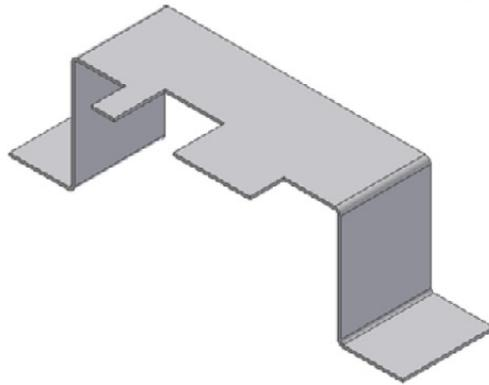

Figure 15-97 Sheet metal component after creating the two contour flanges
7. Similarly, create the second contour flange on the other side of the top face. You may need to flip the direction of the contour flange by using the **Flip Side** button, which is the middle button in the **Offset Direction** area of the **Shape** tab. On choosing this button, the front face of the flange becomes coplanar with the left face of the base sheet. The sheet metal model of the Holder Clip after creating the two contour flanges is shown in Figure 15-97.